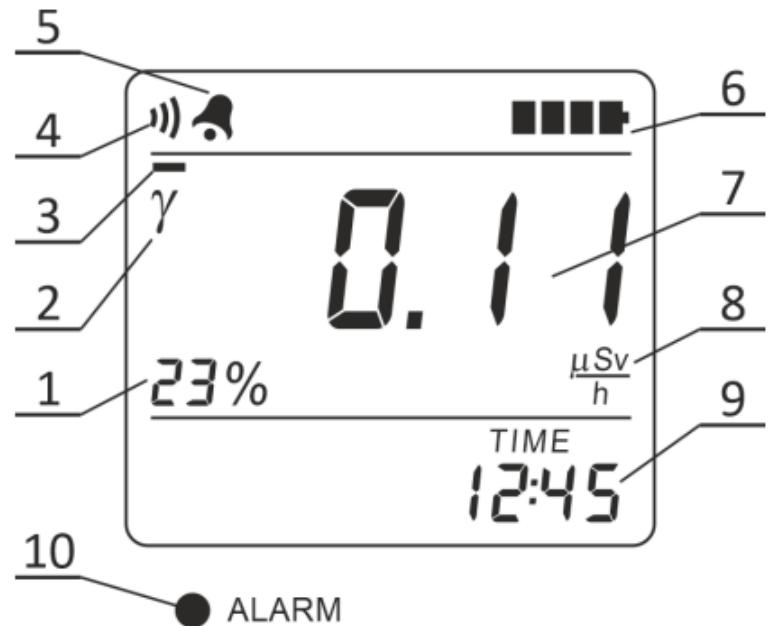

Figure 2.1 – LCD of the radiometer
Irrespective of the chosen operating mode, the radiometer carries out a non-stop control of batteries status. The results of control are displayed on the LCD with a battery status symbol  (6) (Figure 2.1), which consists of four segments.
2.3.3.6.5 The following information is displayed on the LCD of the radiometer (Figure 2.1):
- estimated limit of the expected relative statistical deviations (1) of the measurement result (7) with a confidence probability of 0.95, hereinafter - the estimated limit of statistical deviations;
- “γ” symbol (2) – an indication of the measured radiation type;
- instantaneous value indicator of the radiation intensity (3);
- sound symbol (4) (if audio signaling of detected gamma quanta is switched on);
- alarm clock symbol (5) (if the alarm clock is on);
- battery status symbol (6);
- measurement result (7);
- dimension of measurement result (8) $\mu\text{Sv/h}$, mSv/h or cps;
- current time (9).
2.3.3.6.7 If the measurement results exceed the alarm threshold level, the radiometer sends a two-tone sound signal and starts blinking with the red ALARM LED (10). Measurement results start blinking on the LCD of the radiometer. Periodic and gradual (from left to right) highlighting of the sound symbol segments (4) serves as an indication of the threshold level exceeding as well (Figure 2.1).